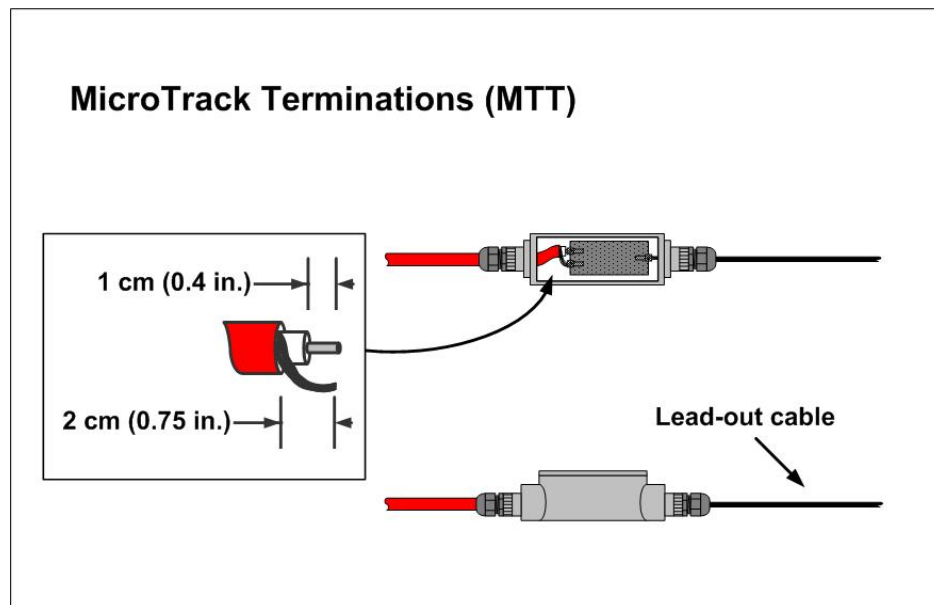

Figure 5.17 MicroTrack Terminations Stop RF and Allow Detection Field to Terminate
4. Prepare the end of the sensor cable for connection to the circuit card in the MTT enclosure, as follows (refer to Figure 5.17 above):